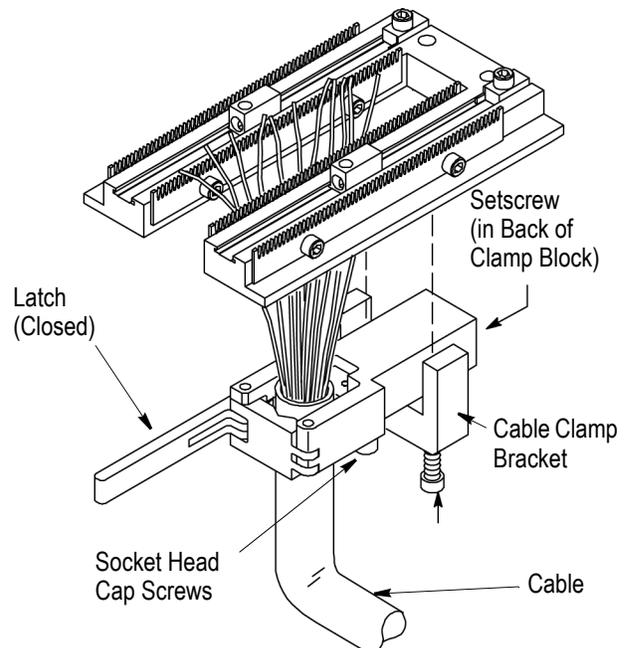

Figure 7
5. Open the cable clamp by opening the latch. Refer to Figure 7.
If the clamp is too tight or too loose, adjust the clamp by moving the jaw using the setscrew located in the back of the clamp block. Refer to Figure 7.
8. Position the cable clamp so that the cable bundle is centrally located on the termination cover. To position the clamp, loosen, but do not remove, the socket head cap screws in the cable clamp bracket and slide the clamp to the desired position. Refer to Figure 7.